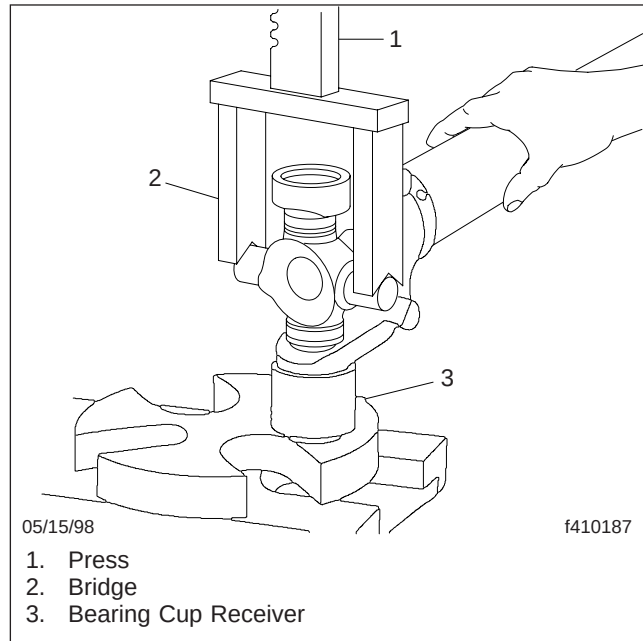

Fig. 7, Removing Bearing Cups from an RPL U-Joint
5. Remove both bearing cups from the yoke cross-holes. See Fig. 7. Remove the cross from the yoke. Discard the U-joint assembly.